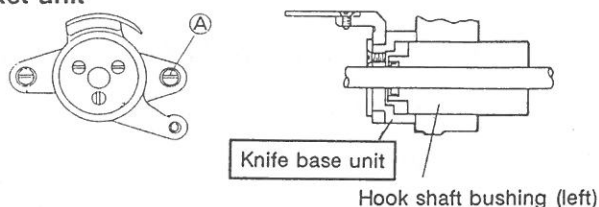

Fig. 3
- (1) As shown in Fig. 3, fit the knife base unit to the hook shaft bushing (left) and fix with the screws Ⓐ.